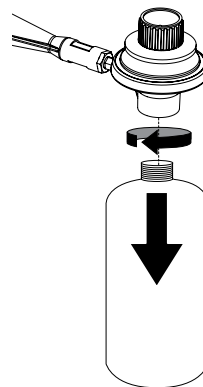

Figure 2
2. Rotate LP gas tank counterclockwise until it is detached (Figure 2).